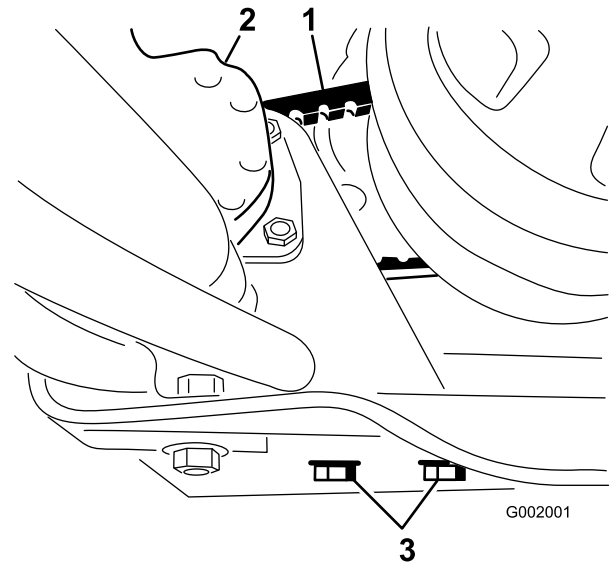

Figure 64
2. Loosen the steering pump mounting bolts (Figure 64).